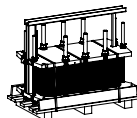

Fig 1a
- Follow the rigging instructions (Figures 1a, 1b and 2).